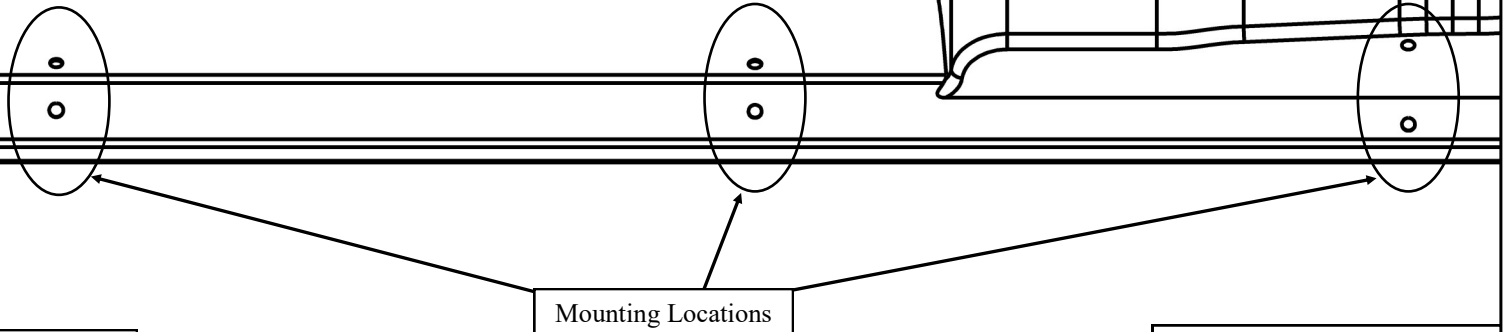

Figure 1
2. Beginning on the driver side of the vehicle, remove (2) M10 OEM bolts (or plastic plugs) from each mounting location on the rocker panel if they are present. See **Figure 1**. *Note: The 2-Door vehicle will only have two mounting locations, NOT three.*